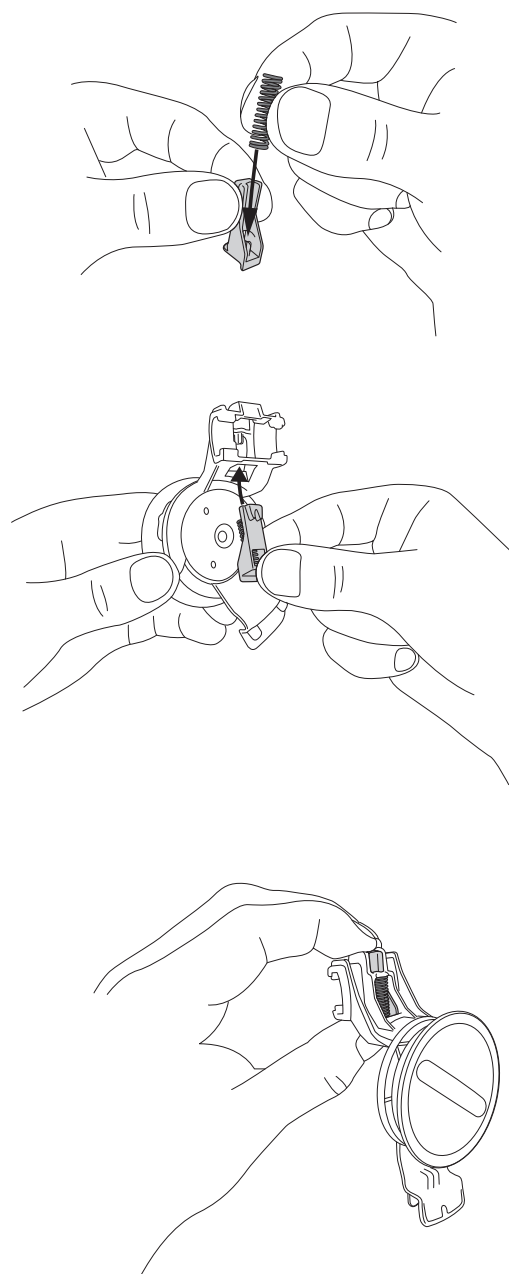

Fig. 25b
- If the gray slide lock is removed, place the spring into the lock and push it up through the retaining hole in the bottom of the pivot. It will need to be held in place while placing the pivot on the slide rail (Fig. 25b).